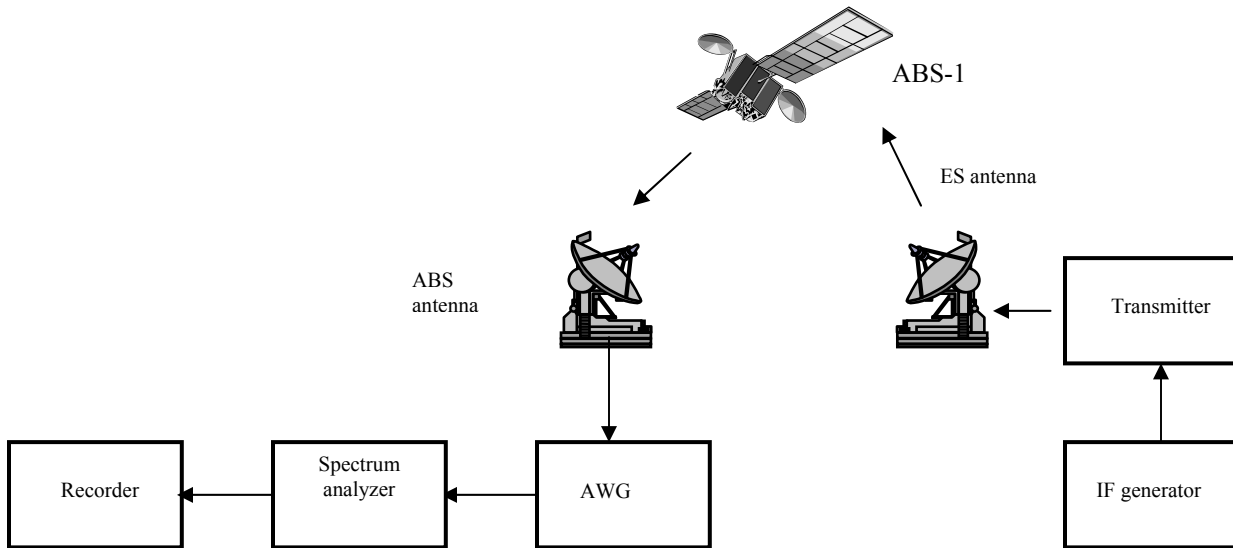

Fig.1. Block diagram for the ES transmit antenna pattern test
Step 1: Set up the equipment as shown in Fig. 1.